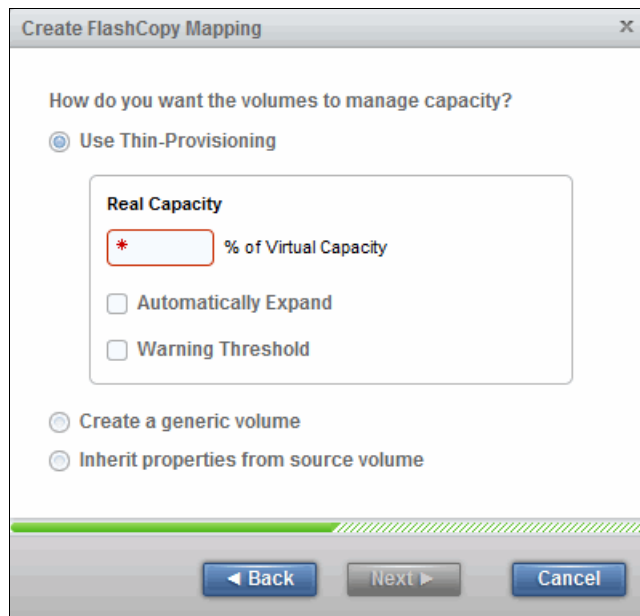

Figure 10-21 Advanced thin provision options
7. If you select a thin-provisioned volume, more options are available, as shown in Figure 10-21. The other option is to inherit the Source Volume properties.